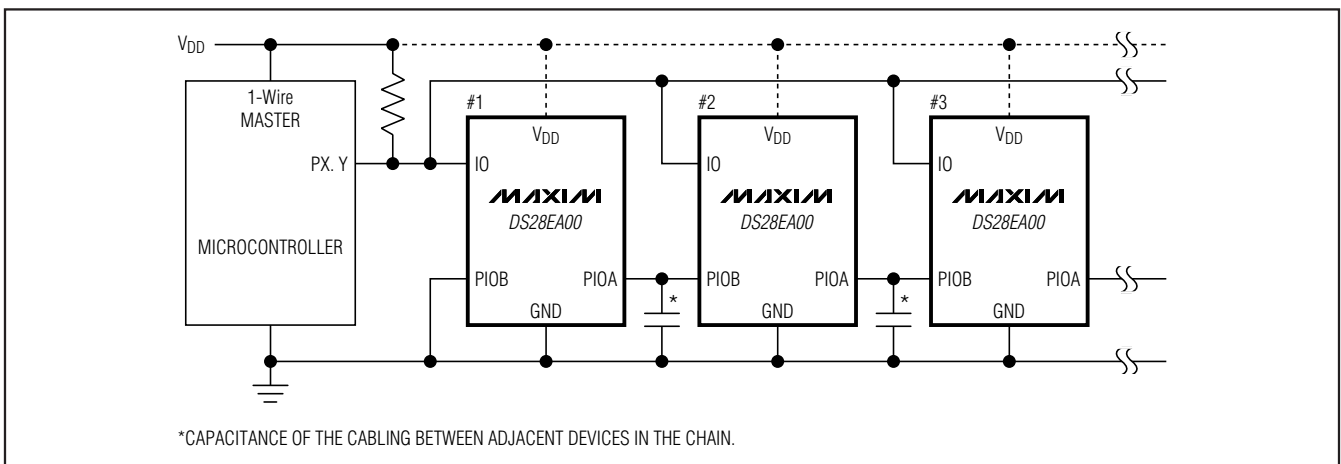

Figure 15. DS28AE00 Wired for Sequence Discovery ("Chain Function")
**Precondition:** The PIOB pin ( $\overline{EN}$ ) of the first device in the chain is at logic 0. The PIOA pin ( $\overline{DONE}$ ) of the first device connects to the PIOB of the second device in the chain, etc., as shown in Figure 15. The 1-Wire master detects the physical sequence of the devices in the chain by performing the following procedure.